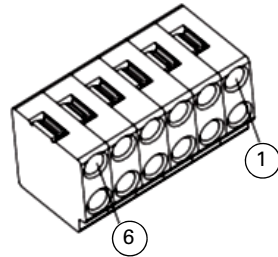

Fig. 6: WAGO terminal block wiring connection (numbered from right to left):
- 4 On the other end of cable, strip the conductors and push the wires into the WAGO terminal block supplied, refer to Fig. 6. Push the springs inside the terminal block to ensure that the wires are firmly fixed.